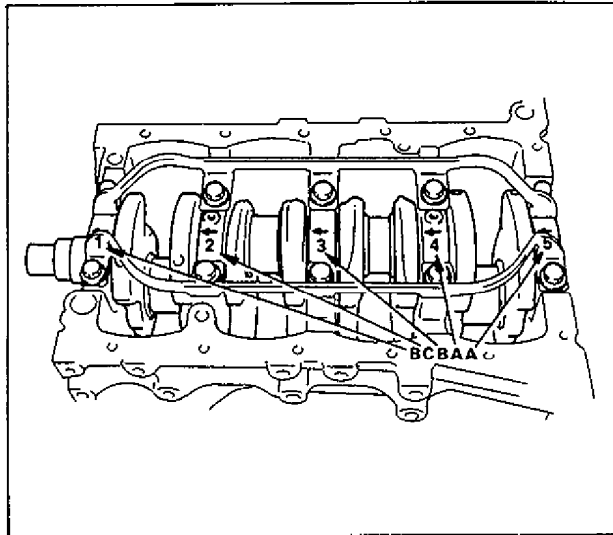

Fig. 6A-142 Stamped Alphabets on Cylinder Block
3. There are five kinds of standard bearings differing in thickness. To distinguish them, they are painted in following colors at the position as indicated in Fig. 6A-143. Each color indicates following thickness at the center of bearing.